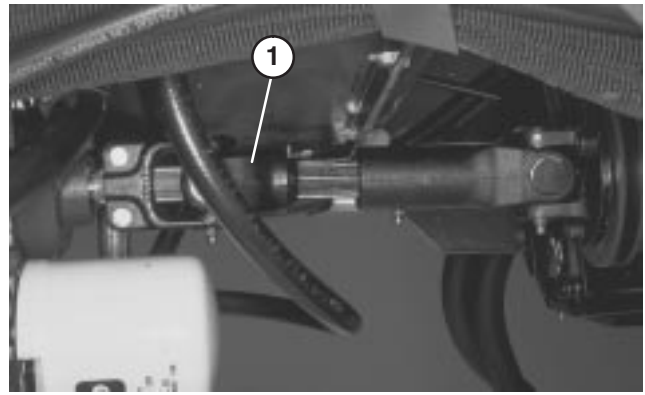

Figure 35
1. Loosen and remove capscrews securing the drive shaft to the engine drive coupler. Loosen capscrews clamping drive shaft to transmission (Fig. 35). Remove drive shaft.
5. When towing is completed, reinstall driveshaft as shown in Figure 35. The splines are designed to allow assembly only when the two halves of the shaft are properly oriented.